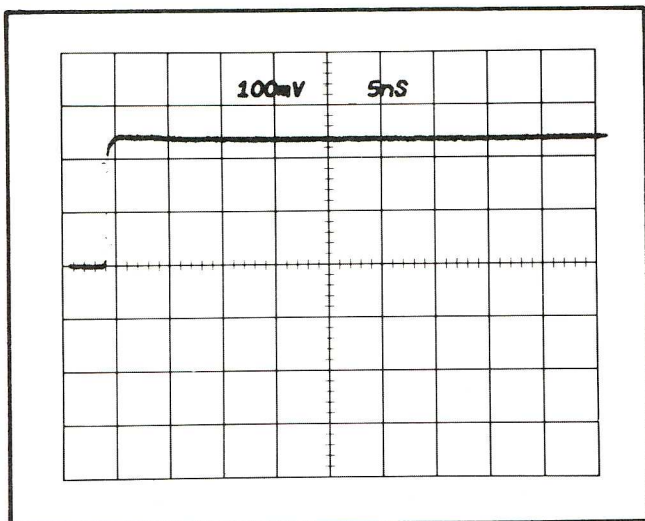

Fig. 2-2. Type 284 Pulse Output signal display using a pretrigger.
7. Turn the S-53 STABILITY control fully counter-clockwise, and set the LEVEL control for a stable display of the Type 284 Pulse Output signal. See Fig. 2-2.